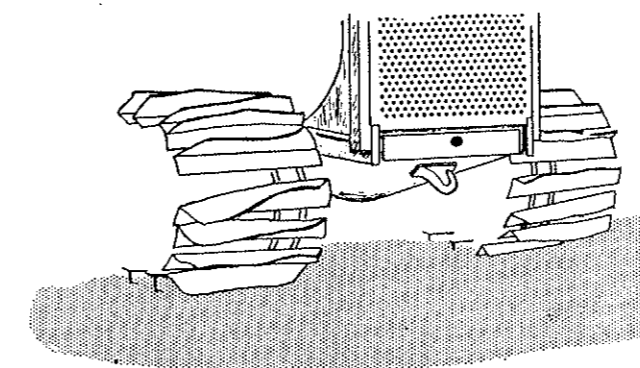

Figure 123.
2. What are the attachments or methods used for obtaining adequate flotation for crawler and wheel-mounted units (fig. 123)? If by redesign of crawlers, what are the widths and lengths of crawlers coming in contact with the ground? What is the ground pressure (pounds per square inch)? If grousers are used, what is their design? Of what material are they made and how are they attached? What is the size and construction of the pneumatic tires?